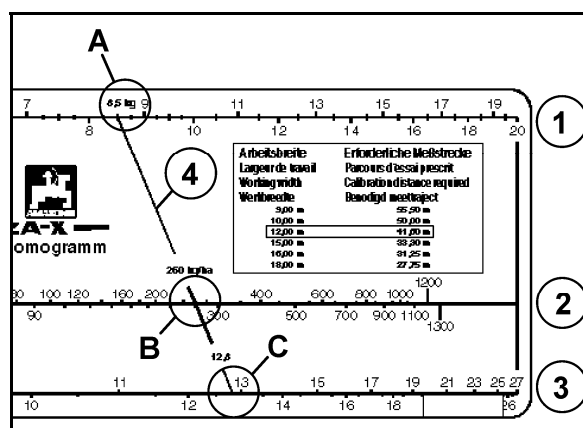

Fig. 68
7. Find the number 19 lb (**8.5 kg**), find the numeric value (**A**) on the upper scale (Fig. 68/1). For the desired spread rate 232 lb/ac (**260 kg/ha**) find the numeric value (**B**) on the middle scale (Fig. 68/2). Lay a straight connecting line through points **A** and **B**. On the bottom scale (Fig. 68/3), the extension of the connecting line shows the numeric value (**C**) for the required slider position, which here is **12.8**.